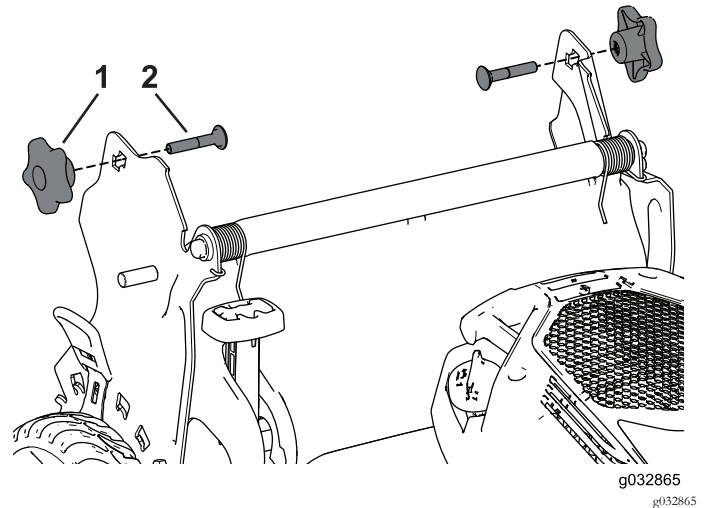

Figure 6
2. Remove and save the 2 handle knobs and 2 carriage bolts from the handle brackets (Figure 6).